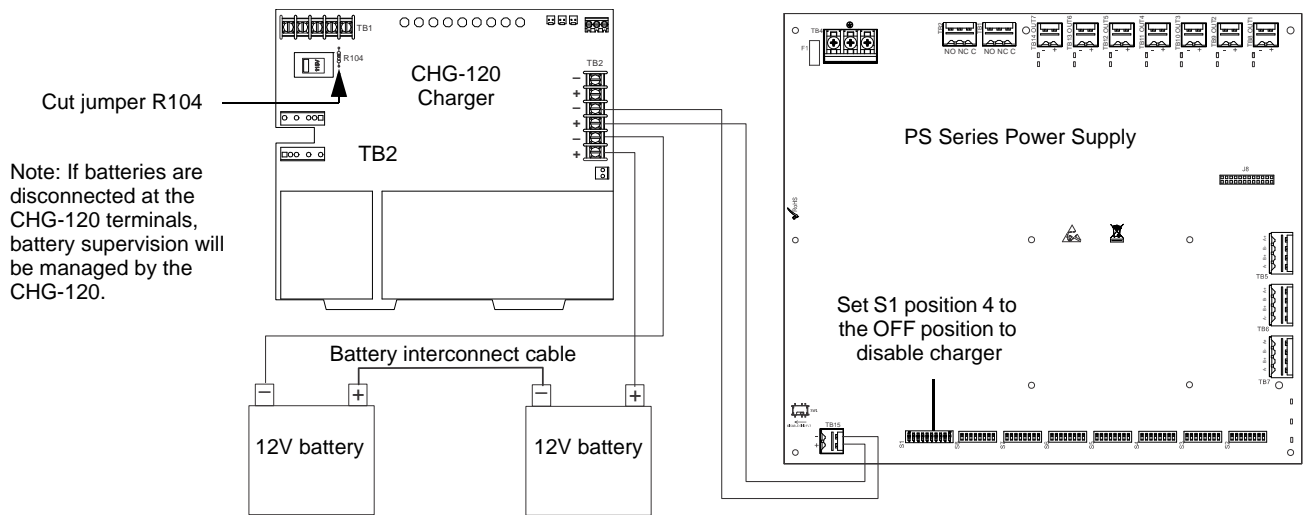

Figure 2.9 Connecting the Power Supply to a CHG-120 Charger
2. Connect the battery cables between TB15 (+ and -) on the PSE and the CHG-120 charger output circuit (TB2: Out 1+ and Out 1-) as shown in Figure 2.9. Be certain to observe polarity.